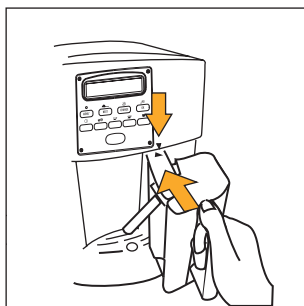
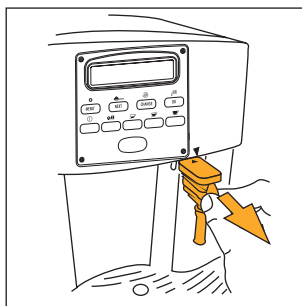

Fig.22
Fig.21
- Remove the hot water spout (fig 21) and attach the milk container to the nozzle, making sure the arrow on the container lid is lined up with the arrow on the control panel of the appliance (fig. 22).
- Attach the milk container to the appliance (fig. 22).